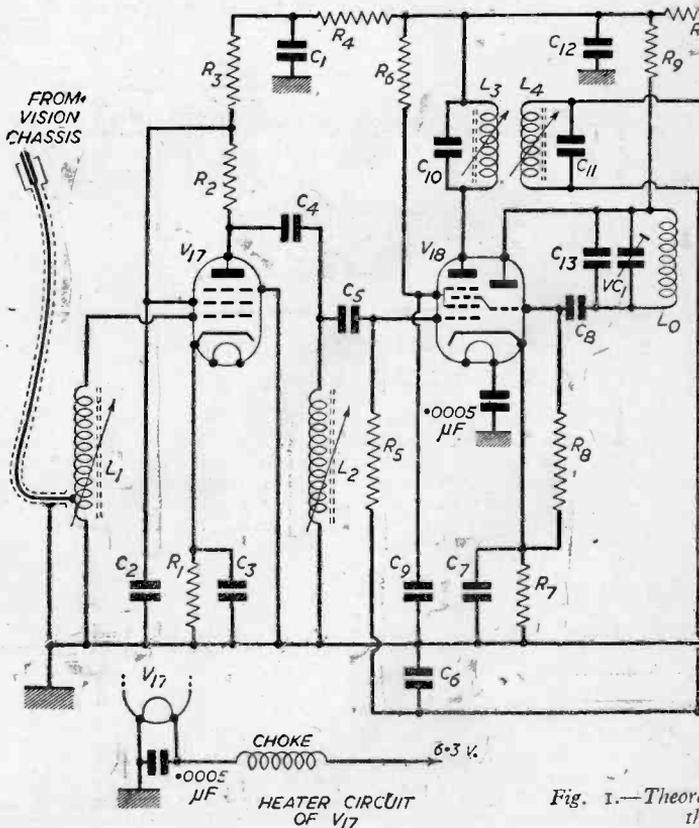

Fig. 1.—Theoretical
**T**HE theoretical circuit diagram of the sound receiver is shown in Fig. 1. It consists of a five-valve chassis, wired as a superhet, and comprises R.F. amplifier, frequency-changer, I.F. amplifier, second detector, A.V.C. and first audio-amplifier, and output pentode. The circuit itself is quite conventional, but it might be worth while to discuss briefly the function of each stage.